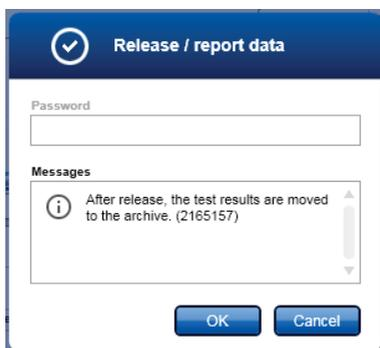

Figure 18. Example of “Release/report data” window.
25. Click **OK** to save the experiment to the archive and create a LIMS output and run report (Figure 18). Run reports and LIMS exports are saved in the default report directory. The default directory can be found in the “Default data export directories” in the Configuration tab.